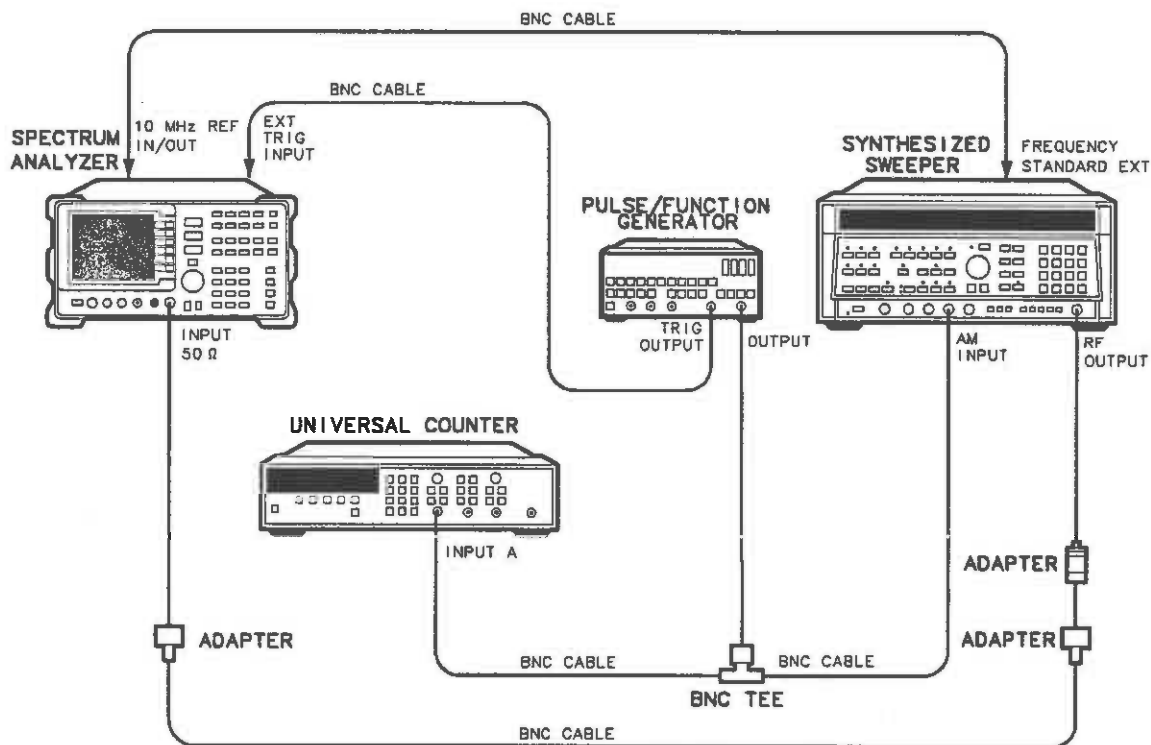

Figure 3-23. Sweep Time Accuracy Test Setup
1. Connect the equipment as shown in Figure 3-23, with the BNC cable from the HP 8116A TRIG OUTPUT connected to the spectrum analyzer EXT TRIG INPUT.